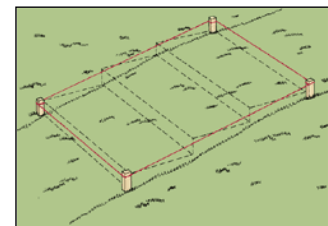

Figure 2
STEP 1. Stake out the perimeter of the stairway by driving a stake into the ground at each corner of the stairway and stretching string between them (figure 2).
STEP 2. Determine the areas that need to be excavated for each step. Using a measuring tape and starting from the string at the bottom of the slope, measure and mark the depth of the each step until you reach the string at the top of the slope. Use spray paint, sand, or flour to mark the depth of each step (figure 2).